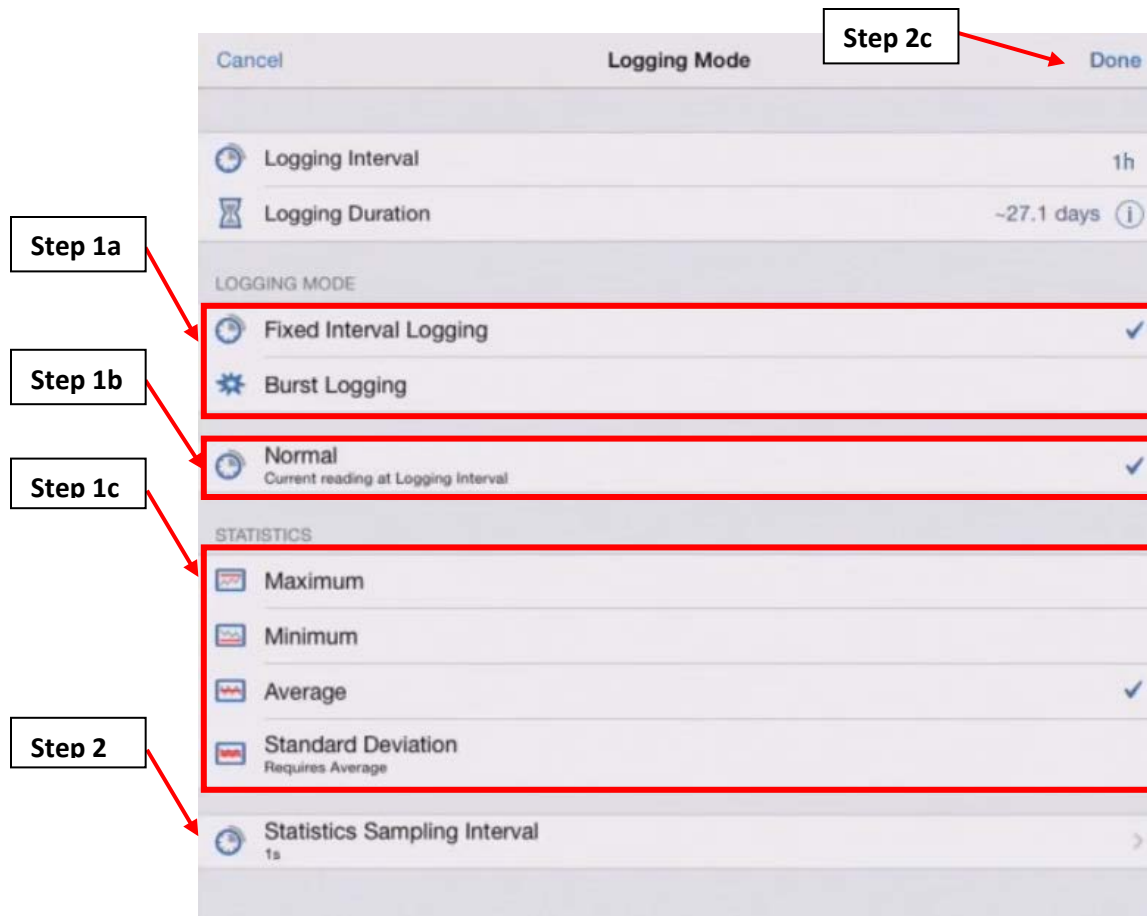

Figure A.6.11: The “Logging Mode” screen.
1. On the "Configure" screen, go to the "Advanced" section and tap the "Logging Mode" option, which will take you to the "Logging Mode" screen as shown on Figure A.6.11.
- c. Tap “Done” to return to the “Configure” screen (Figure A.6.11).